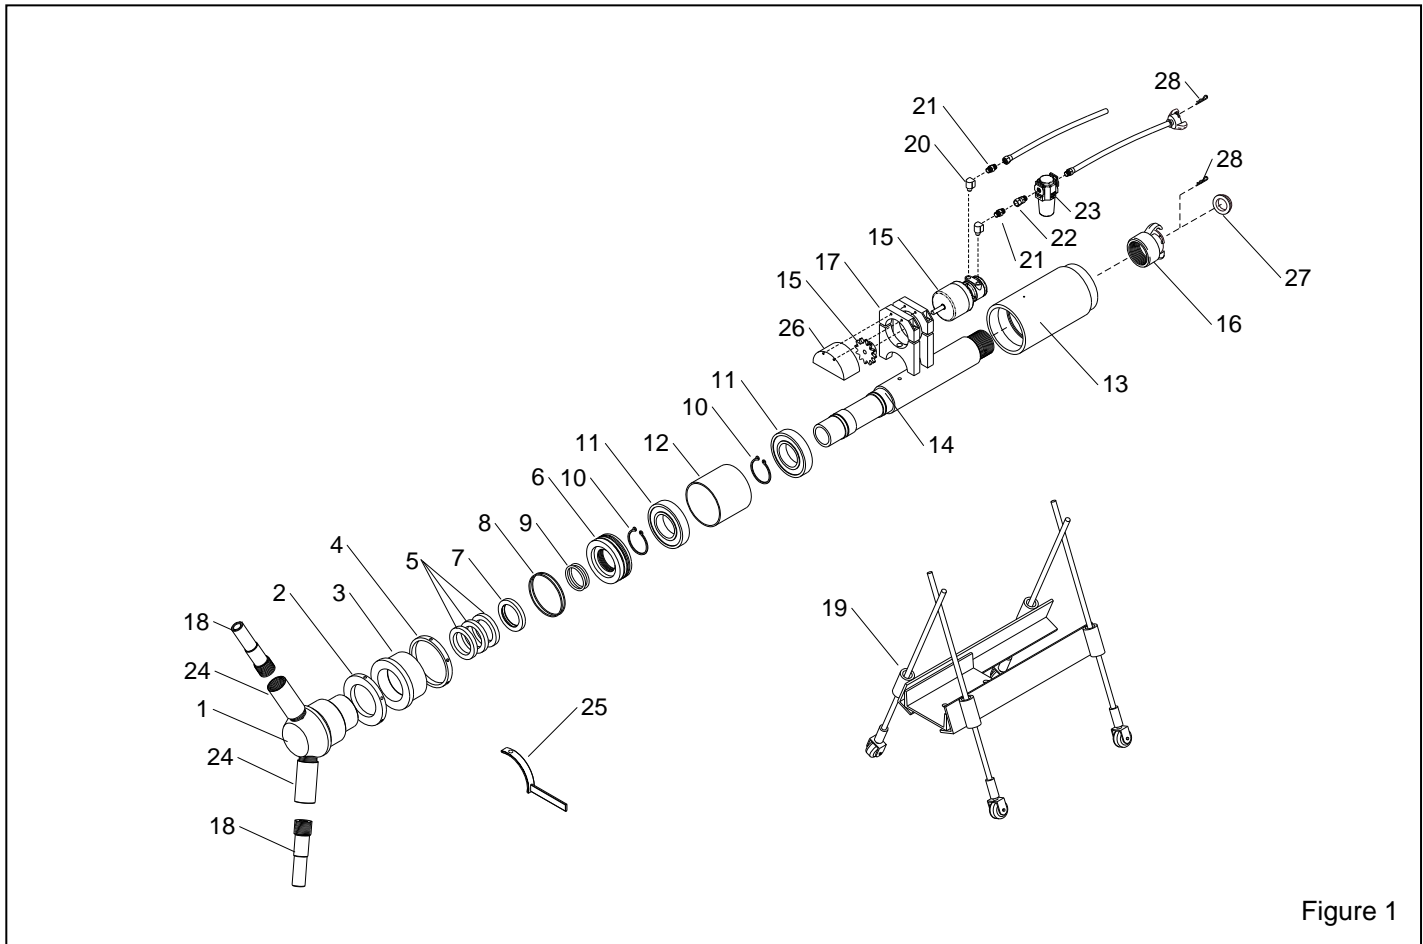

Figure 1
6.0 MAINTENANCE, Refer to Figure 1
8.1 Spin-Blast HD Assembly, Figure 1